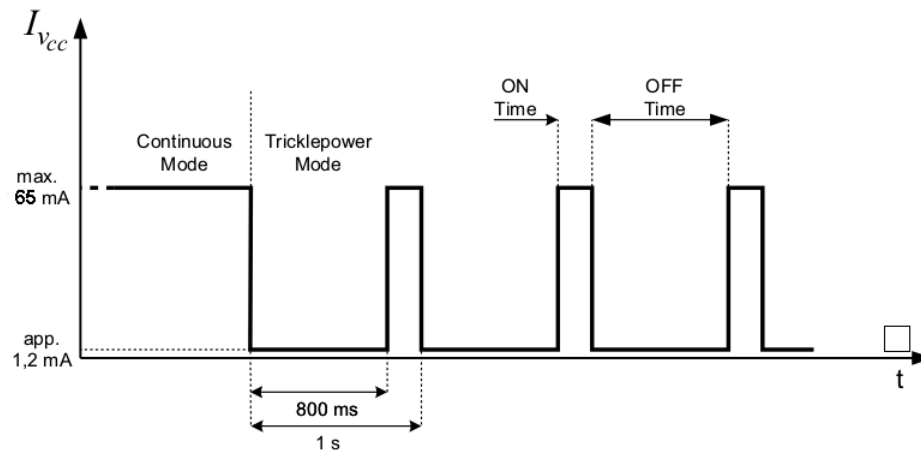

Figure 6: Default settings for the trickle power mode of FALCOM C2D-SI
- trickle power mode: The FALCOM C2D-SI enters the trickle power mode according to figure 6 (**800 ms OFF Time and 200 ms ON Time**) as soon as valid GPS data are available. As a result the average power consumption is reduced by approximately 80 % (approximately 150 mW). The settings for the trickle power mode can be modified using the SiRFstar demo software. For example if the FALCOM C2D-SI is configured to enter the OnTime mode each 10s for a duration of 200ms the average power consumption can be reduced by approximately 95% (approximately 15mW, ca. 4,8mA at  $V_{cc}=3.3V$ ).